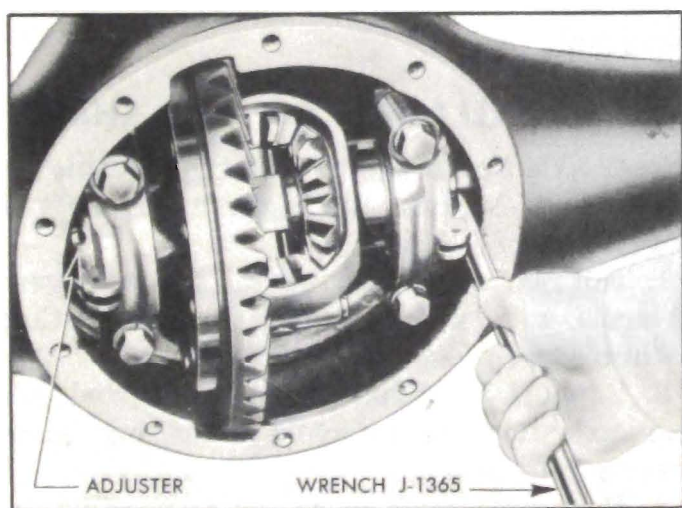
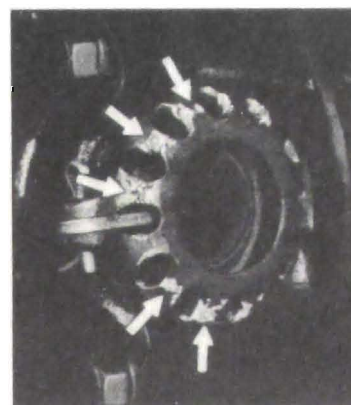

Figure 5-29—Adjusting Differential Bearings with Wrench J 1365
Figure 5-30—Adjuster Mutilated by Wrong Tool
4. Using Adjuster Wrench J 1365 (fig. 5-29) turn adjusters as required to set ring gear lash at approximately .008" to .012", with both adjusters in firm contact with bearings. **CAUTION:** *Do not use punch and hammer to turn adjusters as adjusters will be distorted (see fig. 5-30) and proper bearing adjustment cannot be obtained.*